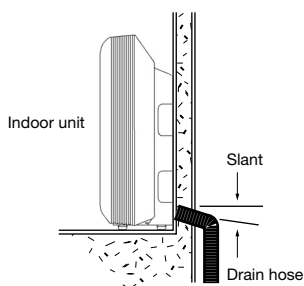

Figure 23
- To conveniently drain the system, the drain hose must slant downward, with a slope of at least 1 : 50 to prevent leakage. Figure 23 shows the unit in the floor mounted position.